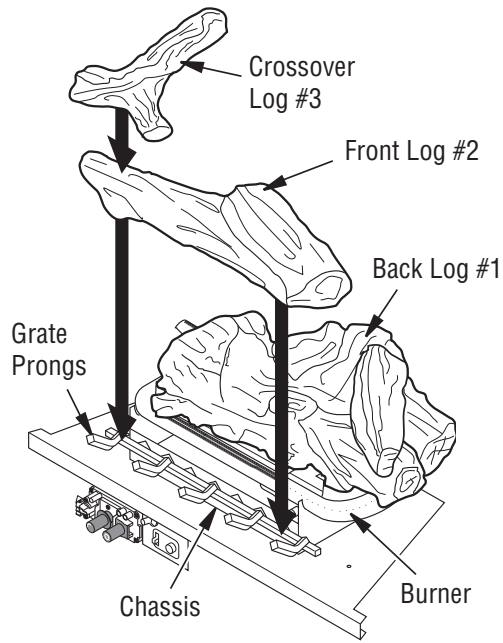
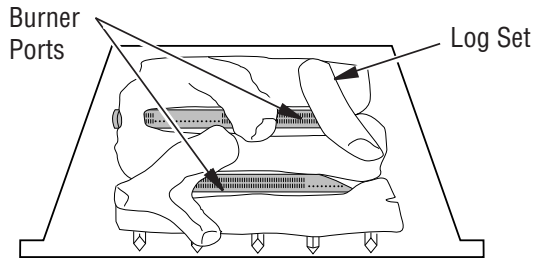

Figure 23 - Installing Log Set
Figure 24 - Installing Log Set (Top View)
1. Place back log #1 on grate to fit as illustrated in Figure 23. Make sure middle section at bottom of log set is seated into “U”-shaped cutout in center of chassis (see *Figure 23, Page 15*). **IMPORTANT:** Make sure log does not cover any burner ports (see *Figure 24, Page 15*).
2. Place front log #2 against front grate prongs as shown in *Figure 23, Page 15*.
3. Place crossover log #3 on top of front and back logs as shown in *Figure 23, Page 15*.